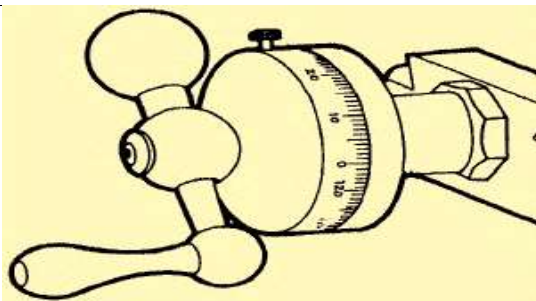

Figure 7-45. Graduated micrometer collar.
**Micrometer Collars:** The compound rest may be equipped with a micrometer collar to measure in inches or in millimeters, or they can be equipped with a dual readout collar that has both measurements. Some collars measure the exact tool bit movement, while others are designed to measure the amount of material removed from the workpiece (twice the tool bit movement). Graduated micrometer collars can be used to accurately measure this tool bit movement to and away from the lathe center axis. (Figure 7-45).